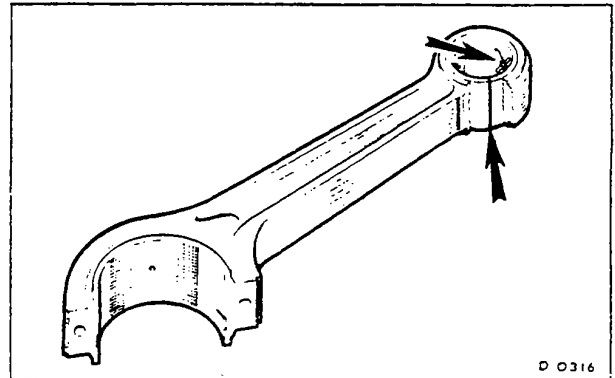

Fig. 1
- a. Position the new bush with its joint on the cap side of the connecting rod as shown in Fig. 1.